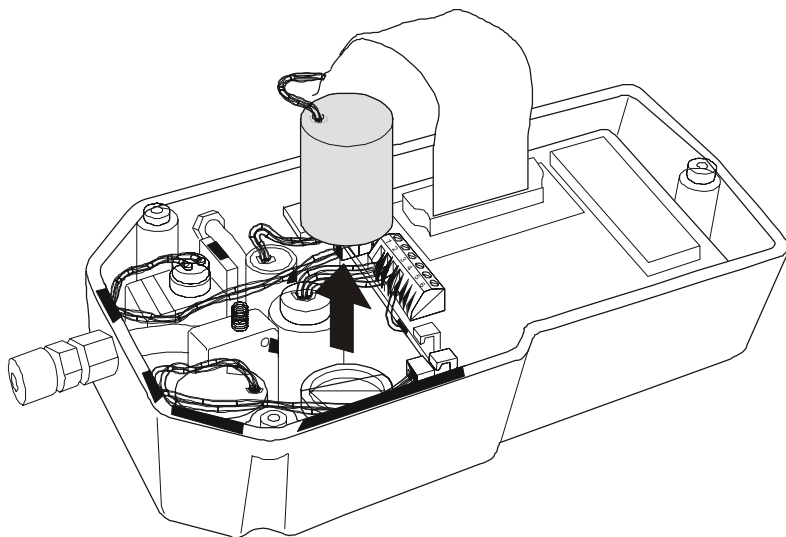

Figure 6-3 Removing a Sensor from the Innova
5. Using your fingers, tilt the sensor from side to side to loosen it, then pull the sensor straight out of its flow block cavity, see Figure 6-3.